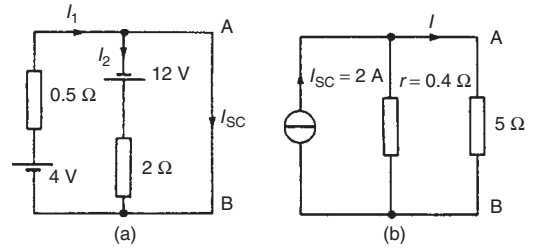

Figure 13.59
- (i) The 5Ω branch is short-circuited as shown in Fig. 13.59(a)
- (ii) From Fig. 13.59(a),
- (iv) From the Norton equivalent network shown in Fig. 13.59(b) the current in the 5Ω resistance is given by: